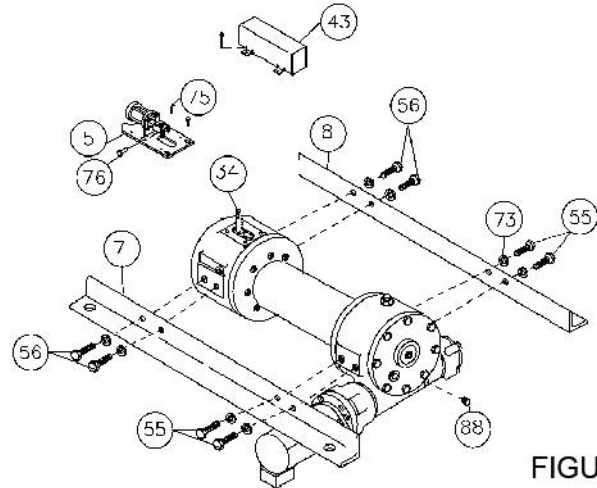

FIGURE 1
The wire rope when fully loaded should allow a space of at least 1.5 x the rope diameter between the edge of the drum flange and the top layer of the loaded wire rope (Fig. 1).
- 10 strands of rope or more broken with a space of 25mm (See fig.1).